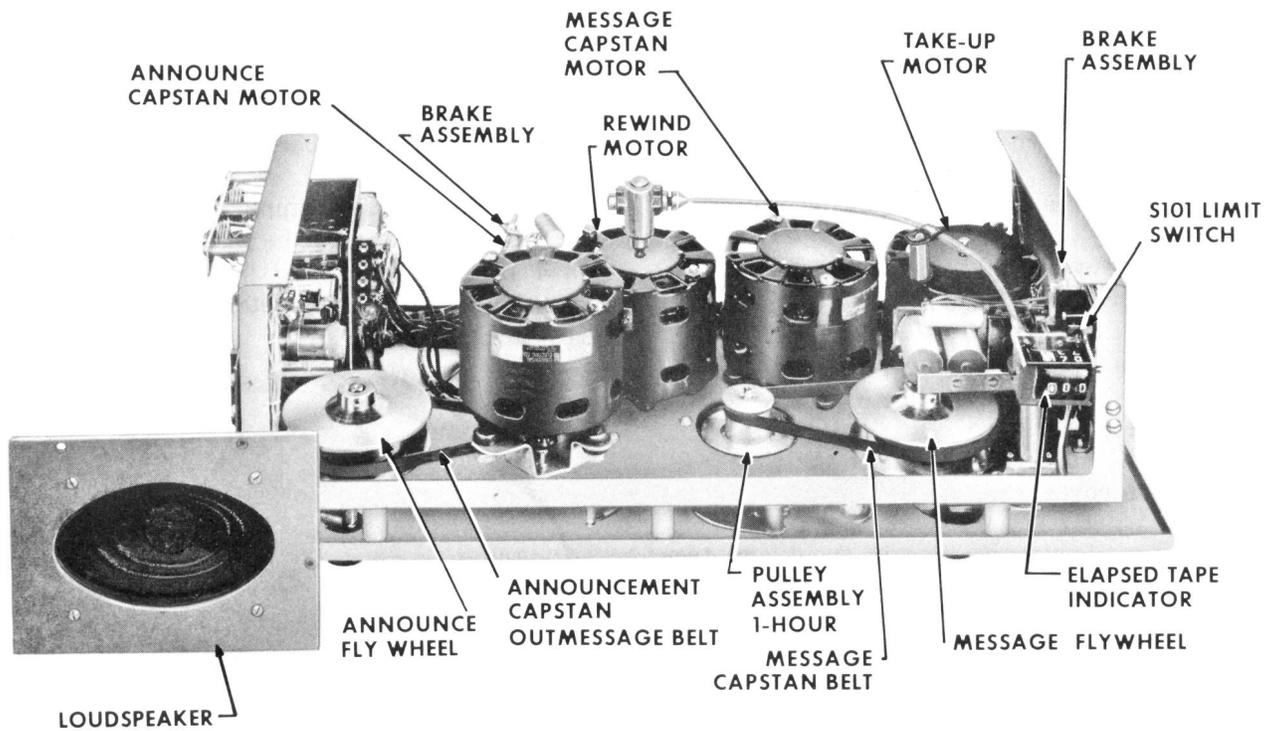

Fig. 7 - KS-16923, List 5 Recorder, Bottom View
8.03 *To replace message capstan belt (Fig. 7):*
(1) Proceed as in 8.01, Steps (1) through (8).
(2) Remove pulley assembly (Fig. 7).
(3) Replace pulley assembly and capstan belt with KS-16923, List 9 two-hour conversion kit.
(4) Assemble belts with shiny sides in contact with their associated pulleys.
(5) Complete reassembly by reversing procedure in 8.01, Steps (1) through (8).